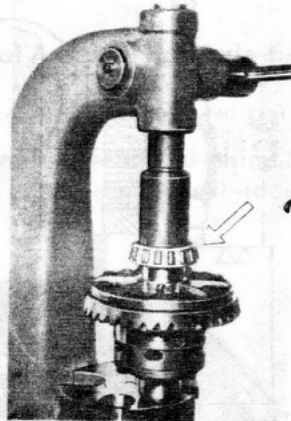

Fig. 17
4. Press taper roller bearing 30 210 with the taper outwards onto its seat on the diff. housing (Fig. 17). (Use suitable press).